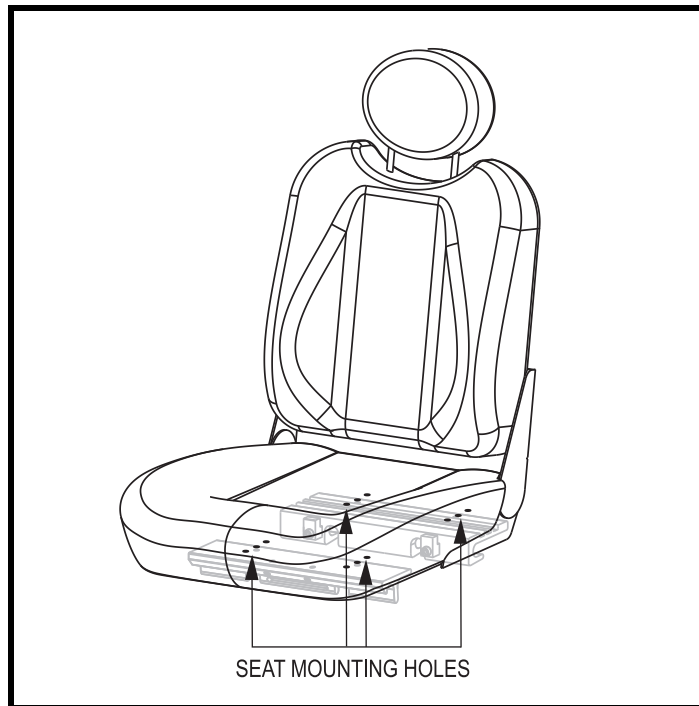

Figure 15. Seat Position Adjustment
4. Reposition the extrusions on a different set of mounting holes. You must move both extrusions the same number of holes either forward or backwards. See figure 15.